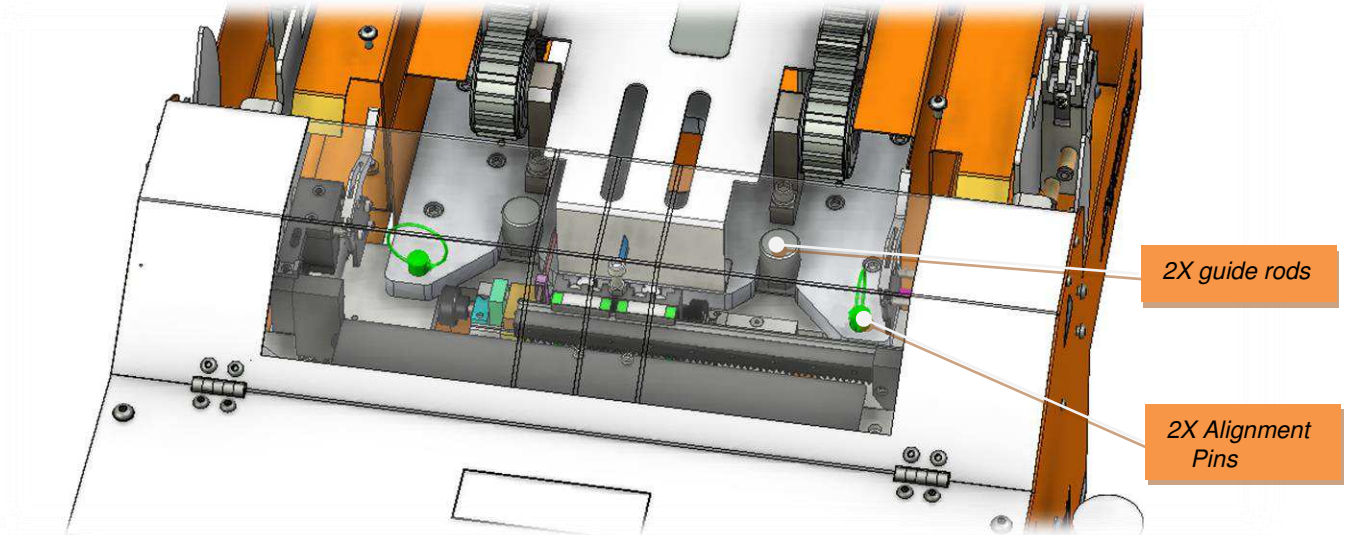

Fig.55 CD connect interface
- Refer to Fig.55, assemble CD onto machine front and fix it by 2X alignment pins.